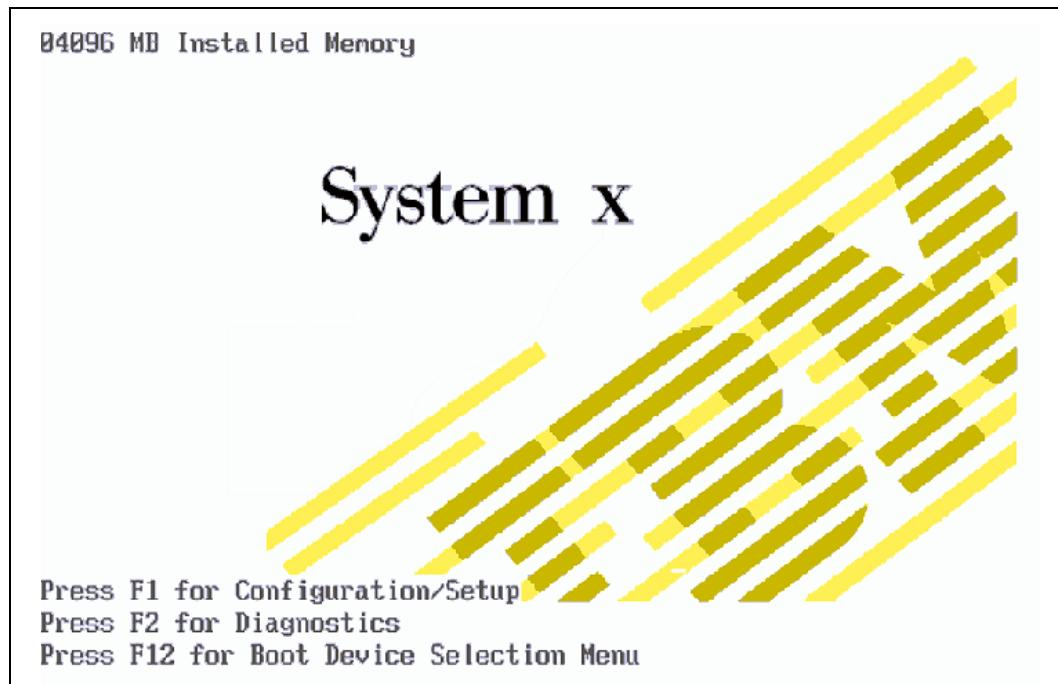

Figure 18-33 System x BIOS Setup panel
2. Press F1 to enter BIOS setup as shown in Figure 18-33.